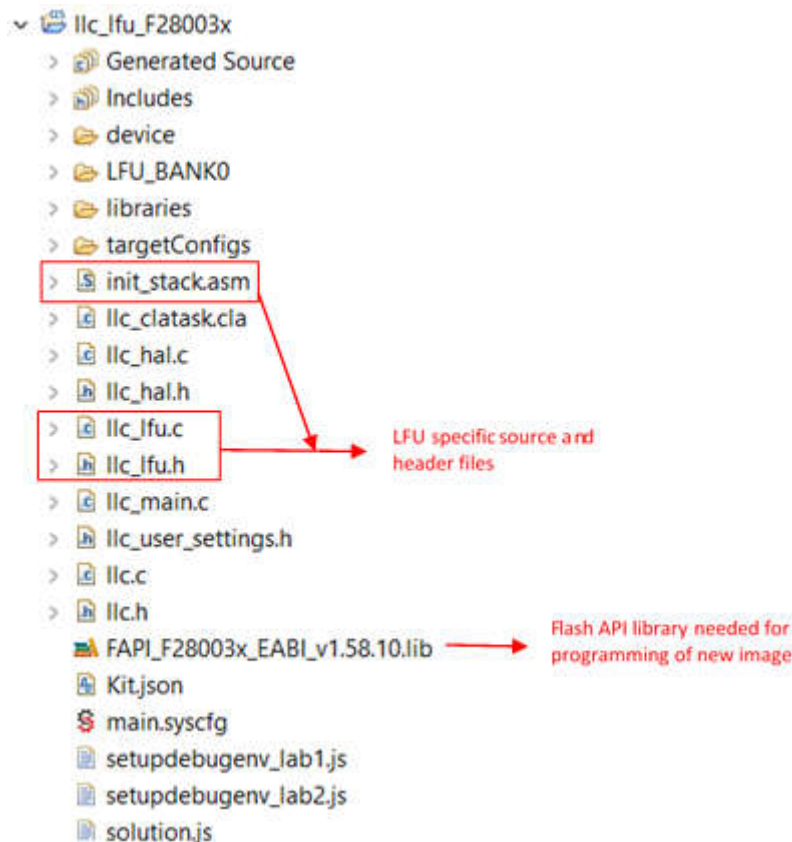

Figure 3-37. Typical LFU-Based System
7. This action imports the project into the workspace environment, and a *main.syscfg* page with a GUI similar to Figure 3-37 appears